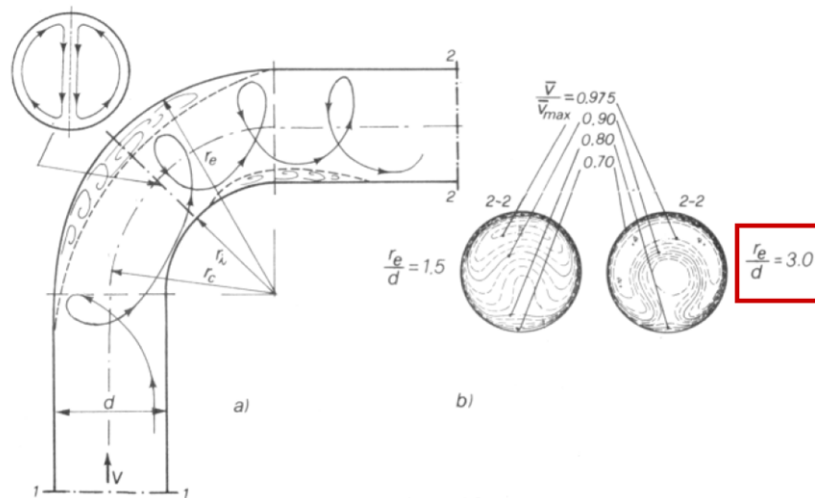

Figure 2: Characteristics of the flow in a 90° elbow detected experimentally.
We wish to study the turbulent flow, for an incompressible fluid (water at 20 °C) and in the absence of heat transfer, through a 90° bend (elbow) of a circular section pipe, as shown in figure 2.
3. The secondary current that is thus determined tends to shift the maximum values of the velocity towards the external side, as illustrated in the experimental findings in figure 2, and to create a double spiral motion that has important consequences: in addition to producing a further dissipation of energy, these secondary motions extend for a very long stretch after the end of the curve - even 40 – 60 diameters - and can significantly distort the measurements, carried out with venturi meters, counters etc., placed at an insufficient distance from the curve itself.